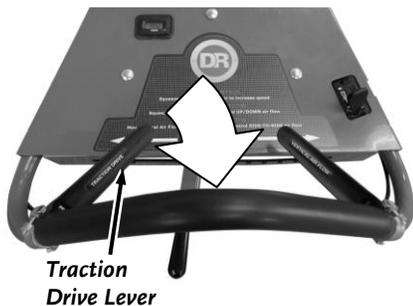

Figure 12
1. Squeeze and hold the Traction Drive Lever against the handlebar to engage the wheels (**Figure 12**).